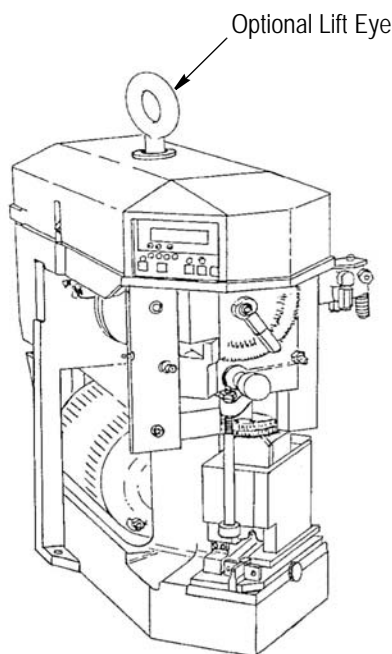

Figure 5
1. Place the terminating machine crate onto a stable bench or work area. It is recommended to install Optional Lift Eye 354577-1 when hoisting the machine. These instructions reflect the use of this accessory. See Figure 5.